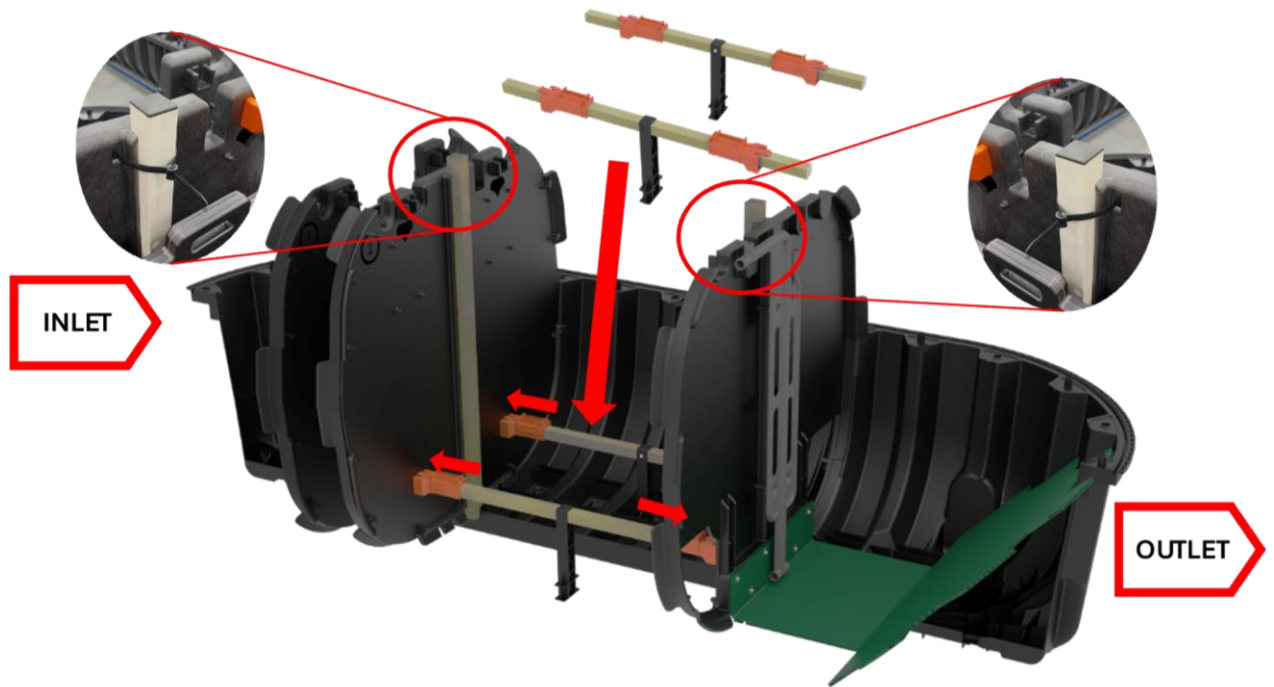

Figure 6: Vertical and horizontal support crossbars positions in CM-1060 Tank
- As shown in Figure 6, insert two 2"x2" vertical support posts, sliding them thru the channels in baffles ② and ③, and into the post seats located at the bottom of the tank. Once in place use the two included zip ties to secure posts to baffles ② and ③.